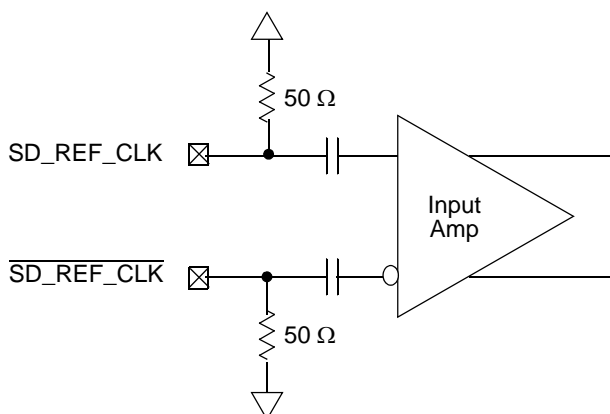

Figure 38. Receiver of SerDes Reference Clocks
Figure 38 shows a receiver reference diagram of the SerDes reference clocks.
- The SD_REF_CLK and $\overline{SD_REF_CLK}$ are internally AC-coupled differential inputs as shown in Figure 38. Each differential clock input (SD_REF_CLK or $\overline{SD_REF_CLK}$) has a 50-Ω termination to XCOREVSS followed by on-chip AC-coupling.